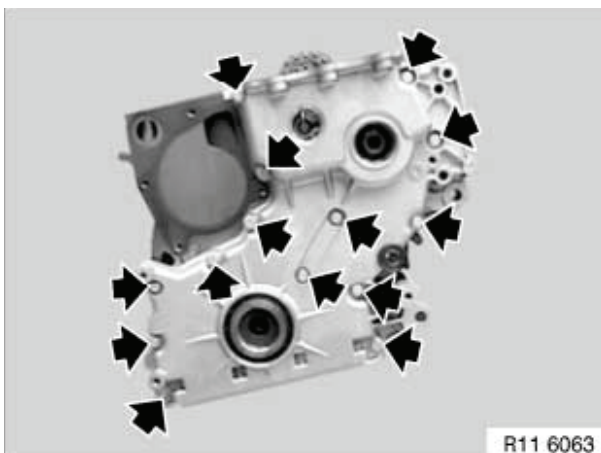

Figure 5-84
11. Remove bolts securing cover and remove timing case cover (**Figure 5-84**).